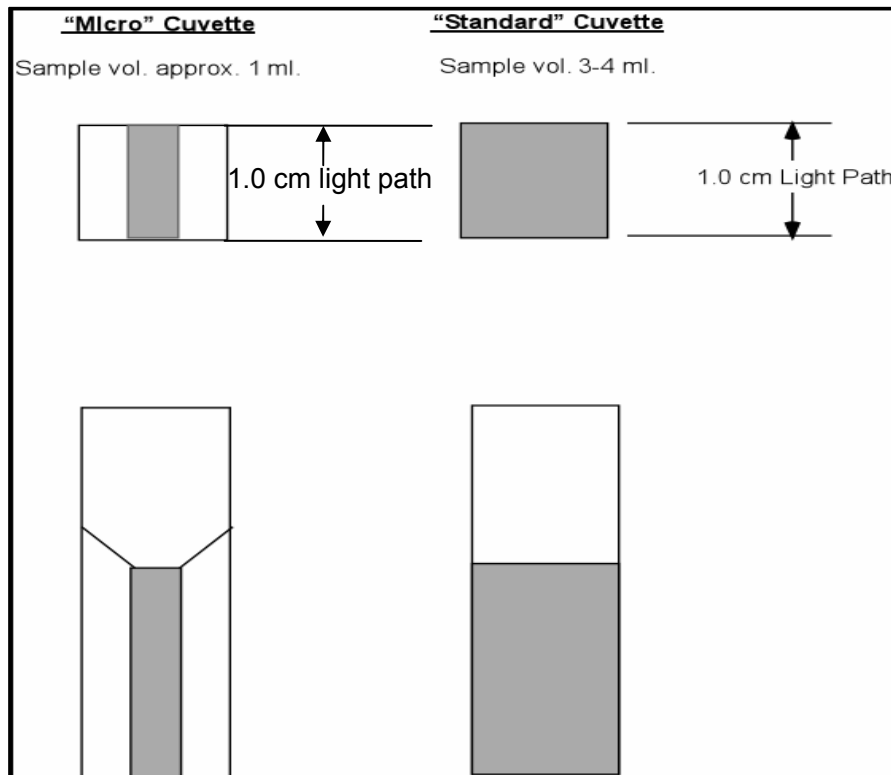

Figure 3: Micro and Standard Cuvettes
- 9.3. Figure 3: Micro and Standard Cuvettes